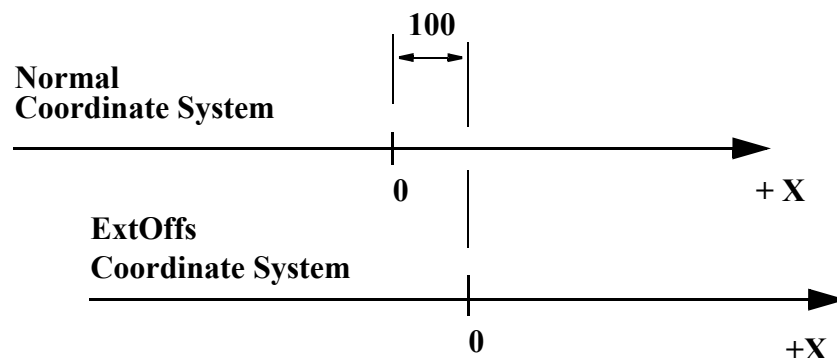

Figure 2 Displacement of an external axis.
- The ExtOffs coordinate system is displaced 100 mm for the logical axis “a” (see Figure 2).